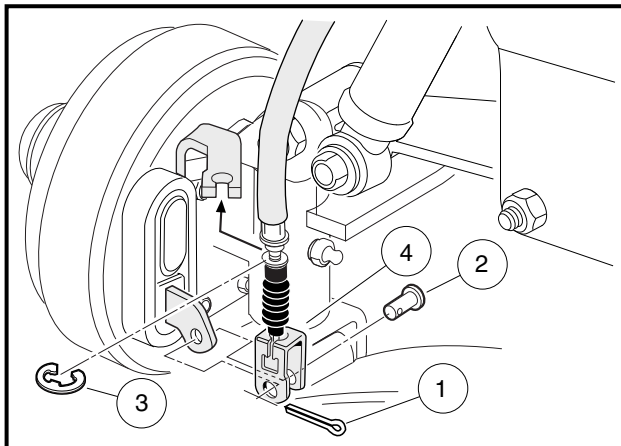

Figure 7-20 Connect Front Brake Cables
- 2.1. Remove the cotter pins (1), brake cable clevis pins (2), and cable retaining clips (3). Remove the brake cables (4) from the spindle brackets (**Figure 7-20, Page 7-16**).
9. Connect the front brake cables on four-wheel brake vehicle in reverse order of disassembly (**Figure 7-20, Page 7-16**).